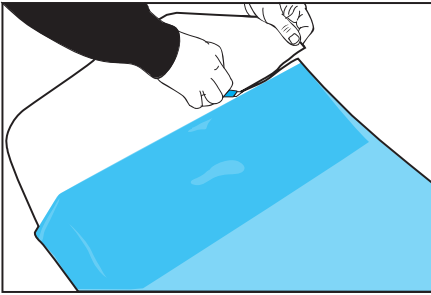
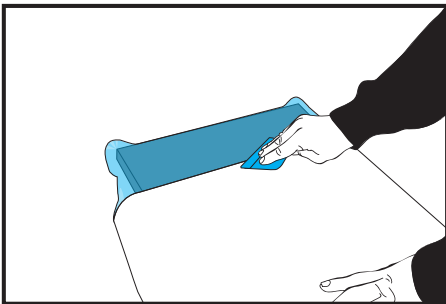
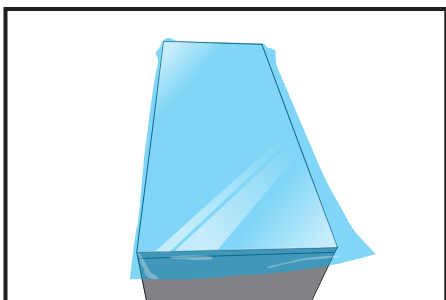

Figure 04
Figure 05
Figure 06
- › Remove approx. 10 cm (4 in) of the liner. (FIG. 04).
- › Start the application of the film from the rim of the horizontal plate of the table or tray. (FIG. 05)
- › Once the installation on the horizontal surface is over (FIG. 06), proceed with the cuts to wrap the edges of the table.
- › First install the horizontal plate using the same method as described in the previous paragraph. (FIG. 04) (FIG. 05) (FIG. 06)